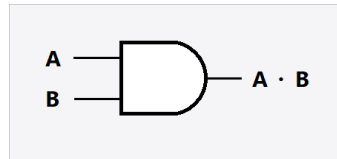

Figure 2
- # A node is defined as well as declared whenever it is used as input or an output to a gate or a subcircuit. For example, for figure 2, we can have,